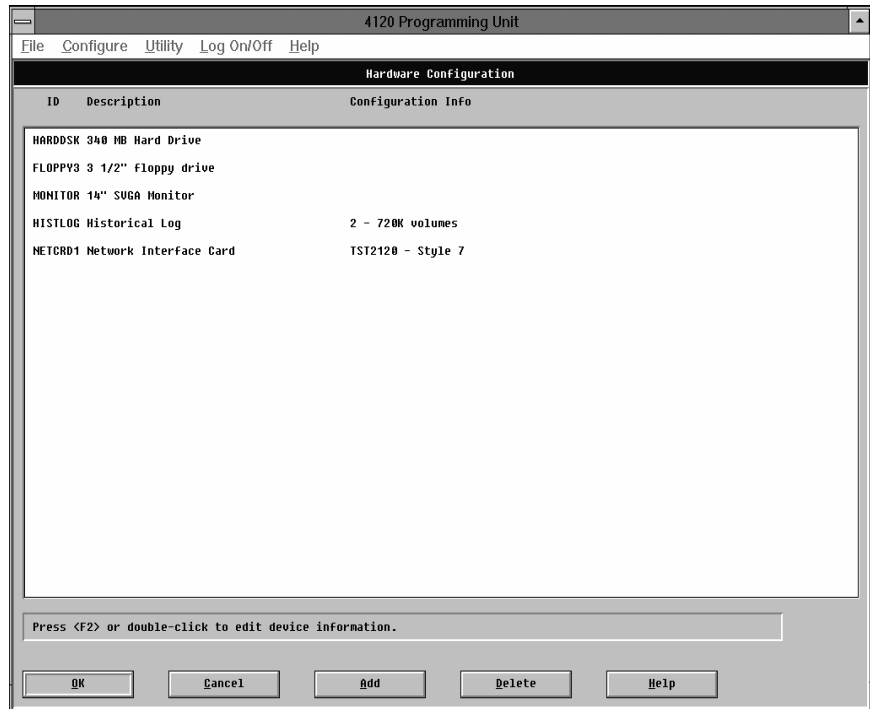

Figure 3-2. 4120 Programmer Hardware Configuration Screen
2. From the **Configure** menu, select the **Hardware Config** option. The system displays the Hardware Configuration screen shown in Figure 3-2.